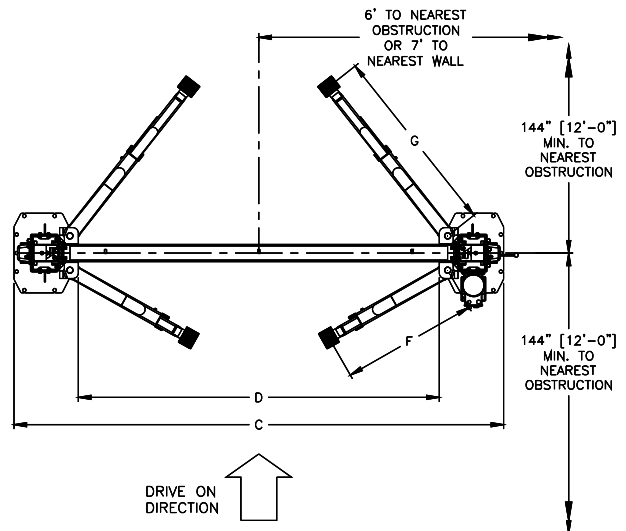

Fig1b - Service Bay Layout
- Layout the service bay according to the architect's plans or owners instructions (**see Fig 1b**). **Failure to install in this orientation can result in personal and property damage.** Be certain that the proper conditions exist, see page 3.
- 4) Recheck "Inside of Columns" dimension (Fig. 1b).